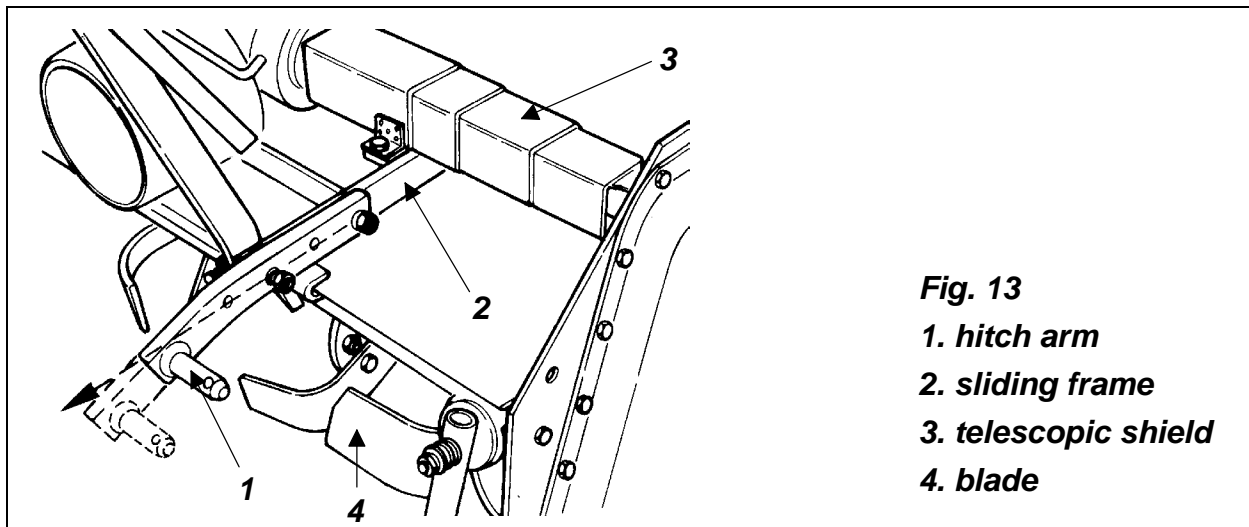

Fig. 13
2. The tiller hitch arms are adjustable in and out and may be positioned turned up or down, depending on driveline length and tractor size (**see fig. 13**).